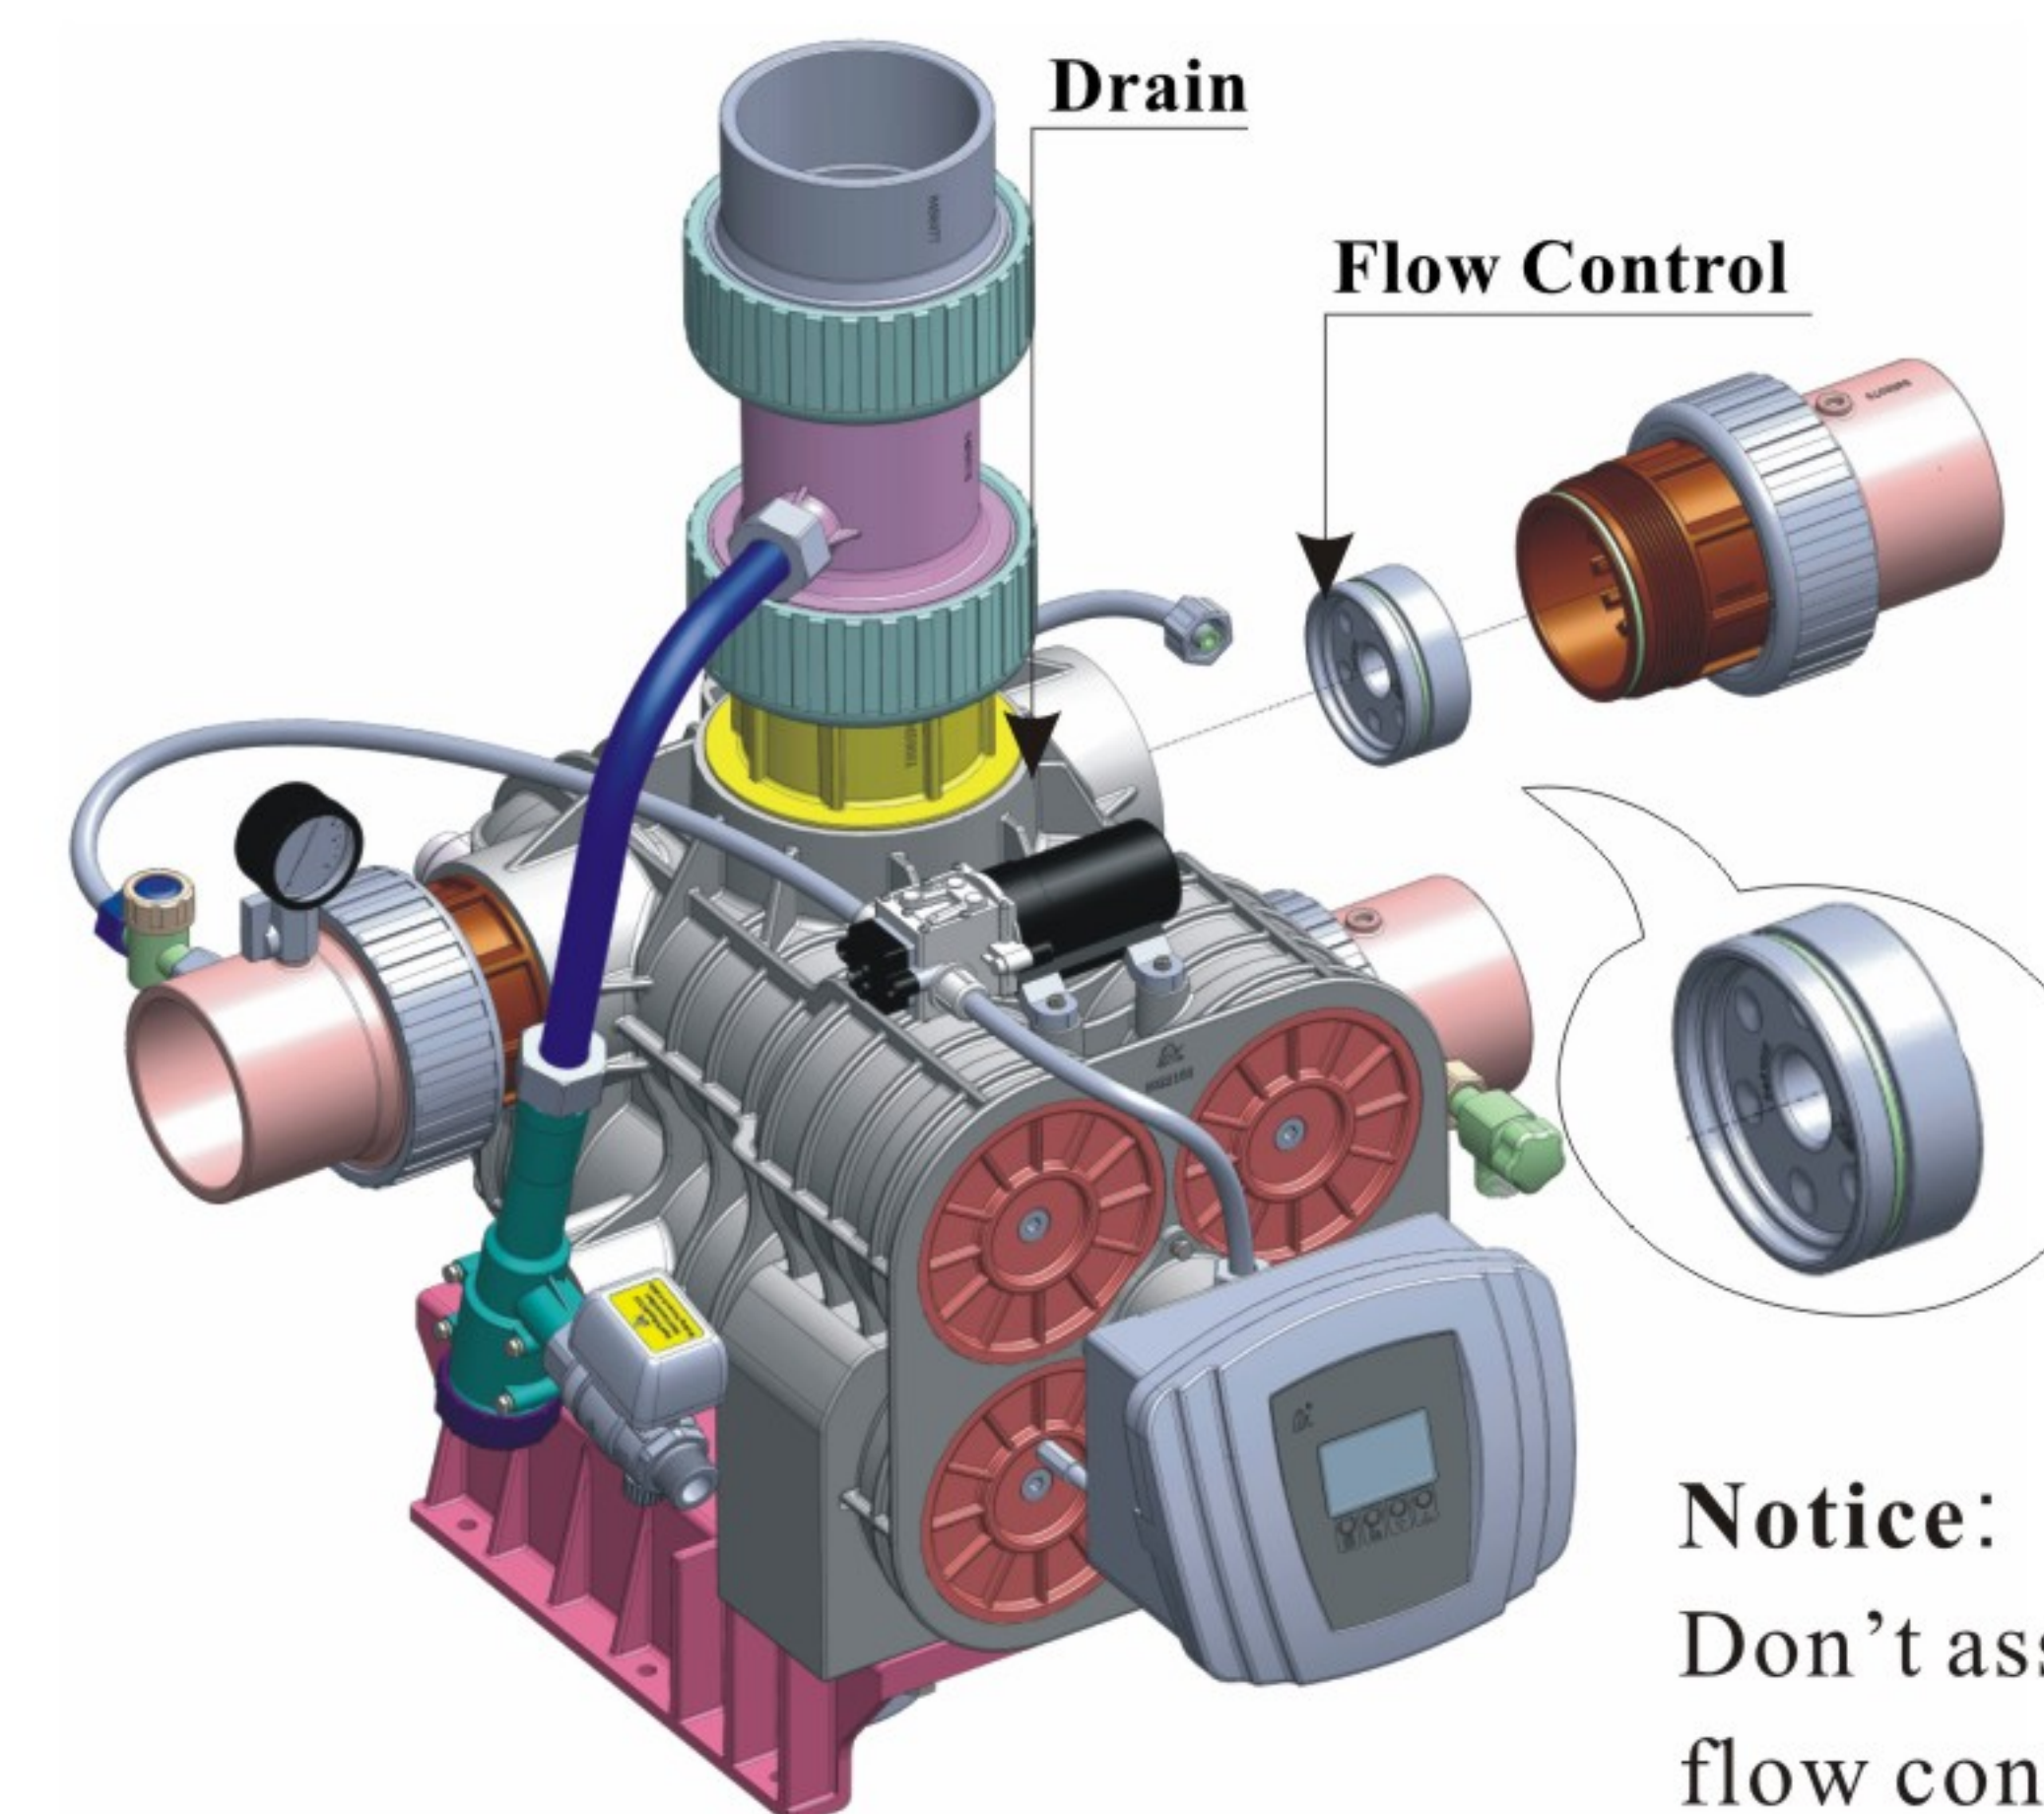

Figure 1-4
- ③ Install drain pipeline (If no special request, the injector is 7804)
- c. Use the white manual handle as Figure 1-4 shows to open the drain connector, take out the drain line flow control, change it to the suitable one. (Please refer the hole of P30)